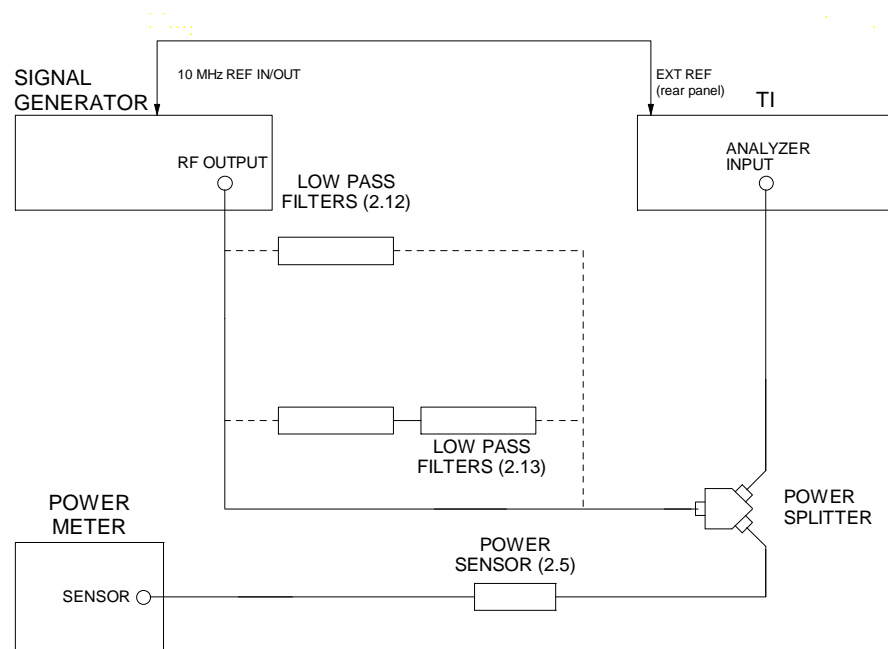

Figure 6.
4.16.2 Standardize the Power Meter and Power Sensor (2.5). Connect equipment as shown in Figure 6.